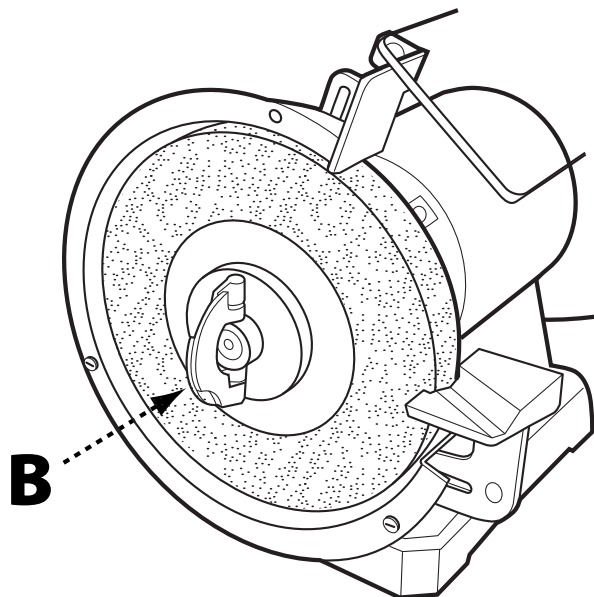

FIGURE 5
4. Firmly grasp the wings of the arbor nut (B) with one hand while using the other hand to keep the wheel from moving. See Figure 5. Tighten the arbor nut as far as you can.